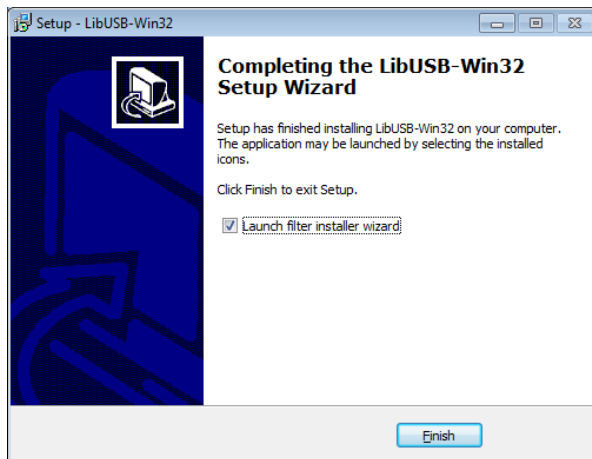

Figure 4.1.
2. Then run **libusb-win32-devel-filter-1.2.6.0.exe**, which can be found in the folder '**<grmon-ver>/share/grmon/**', where **<grmon-ver>** is the path to the extracted win32 or win64 folder from the the GRMON archive. This will install the libusb filter driver tools. Step through the installer dialog boxes as seen in Figure 4.1 until the last dialog. The **libusb-win32-devel-filter-1.2.6.0.exe** installation is compatible with both 64-bit and 32-bit Windows.